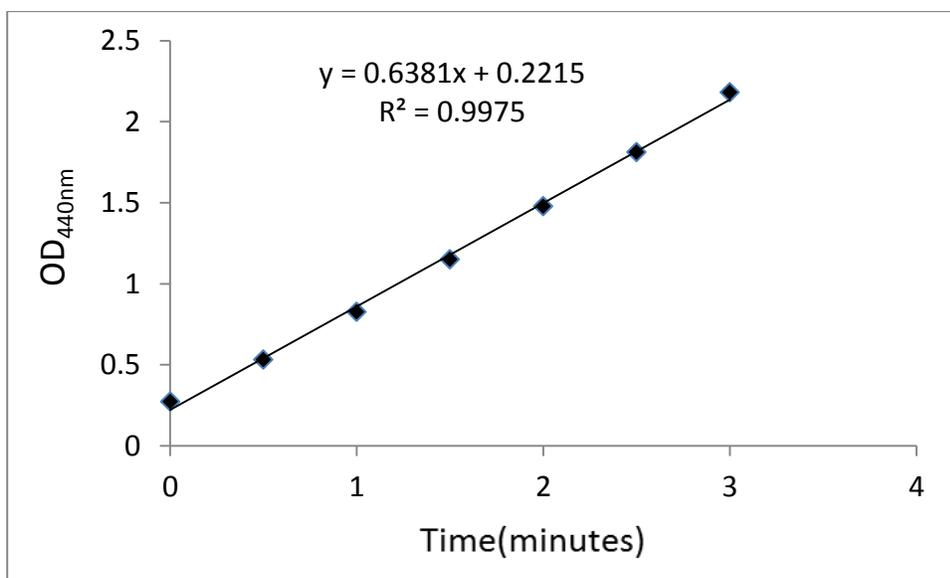

Figure.1 Absorbance change of diluted ADH positive control at 440nm.
Diluted ADH positive control is measured with the ADH Assay kit after different times of reaction (Figure 1 and 2). The detection limitation range is the absorbance increase of 0.01 to 0.6 per minute.
2. Add 90 μL of working reagent mix into each well of the 96-well plate containing diluted ADH positive control, samples and blank, mix well immediately and start recording $\text{OD}_{440\text{nm}}$ over 3 minute intervals, collecting data every 0.5 min. Figure 1 shows data of ADH positive control.